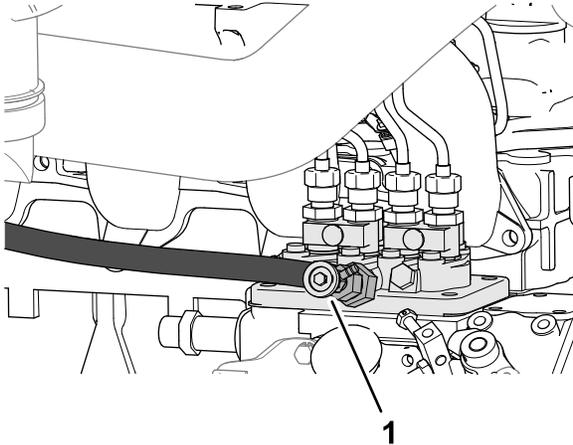

Figure 84
4. Open the air-bleed screw on the fuel-injection pump (Figure 84).